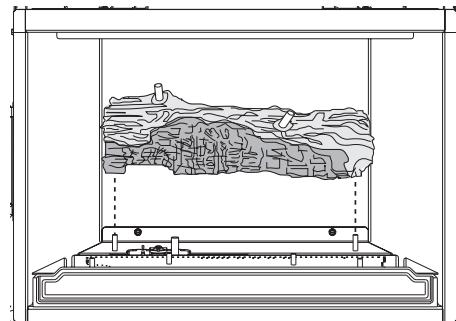

Figure 24. Engage rear log with base pegs.
1. Place the Rear Log in position on the pegs in the log support at the back of the firebox as shown in fig. 24.